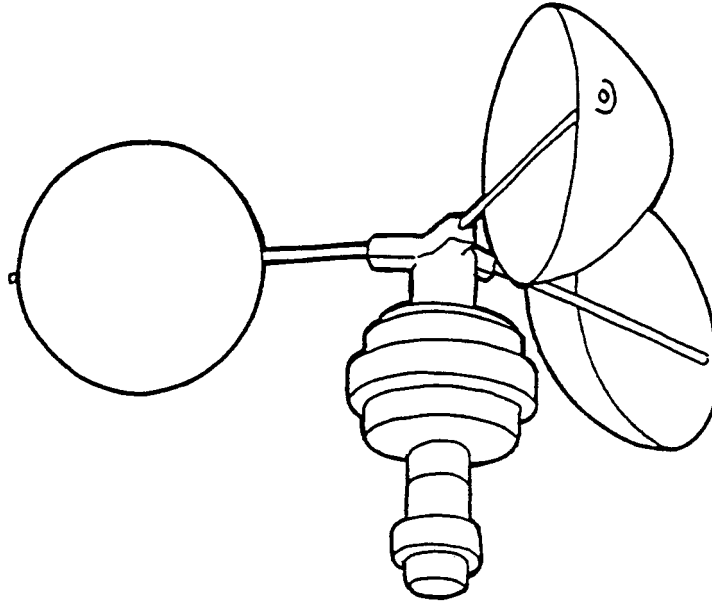

FIG. 14
- (b) Accurate wind velocity data are essential to proper windmill system design. Name the wind velocity measuring device shown in Figure 14 below.